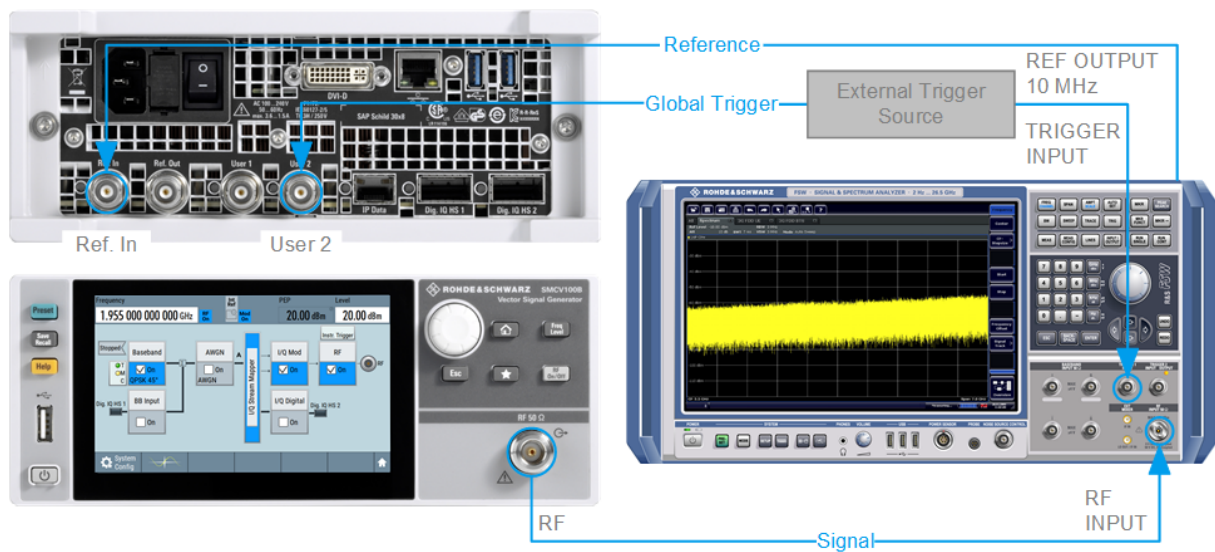

Figure 6-6: Simplified representation of a test setup**
1. Use a suitable cable to connect the external trigger source to the "User" 2 connector of the R&S SMCV100B. See Figure 6-6.
The Figure 6-6 depicts the location of the connectors and explains the connection as principle. In practice, you would rather "substitute" the analyzer by a DUT, like a base station (BS).